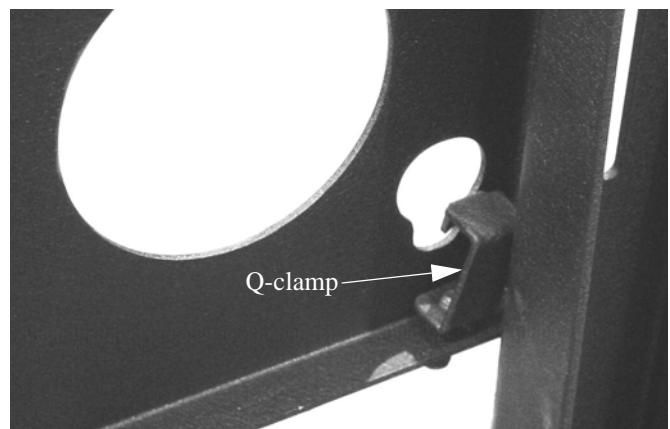

Figure 13. Install Q-clamp
5. Install Q-clamp (see Figure 13).